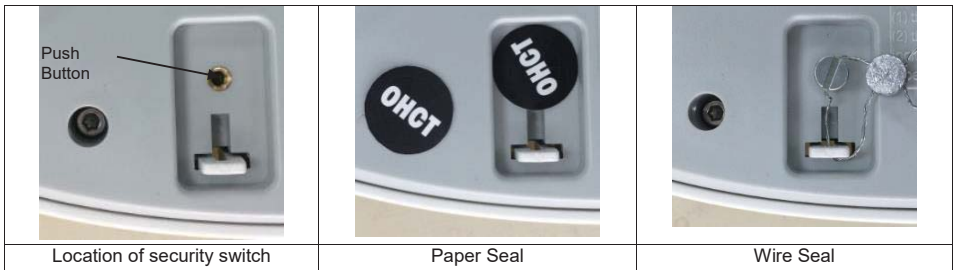

Figure 6-1. Sealing
5. As shown in Figure 6-1, press the push button inside the hole.